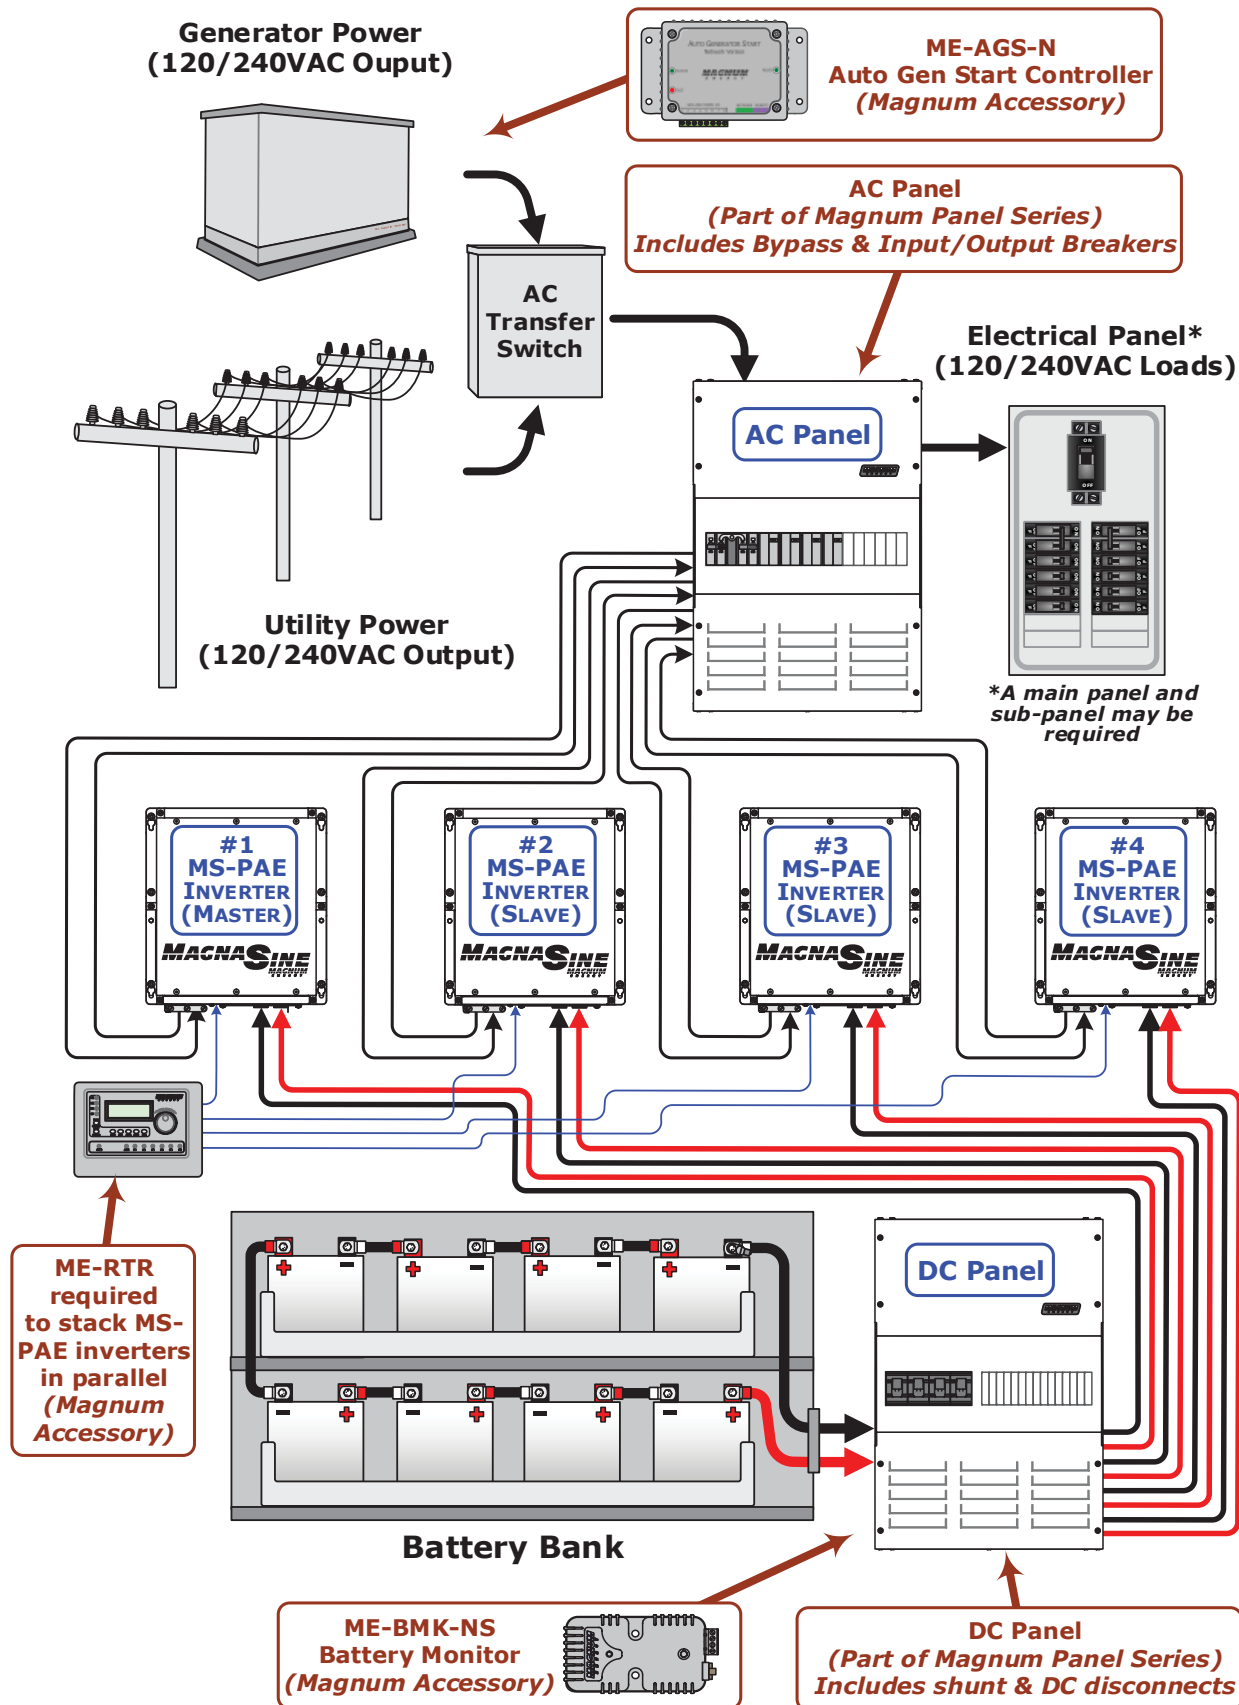
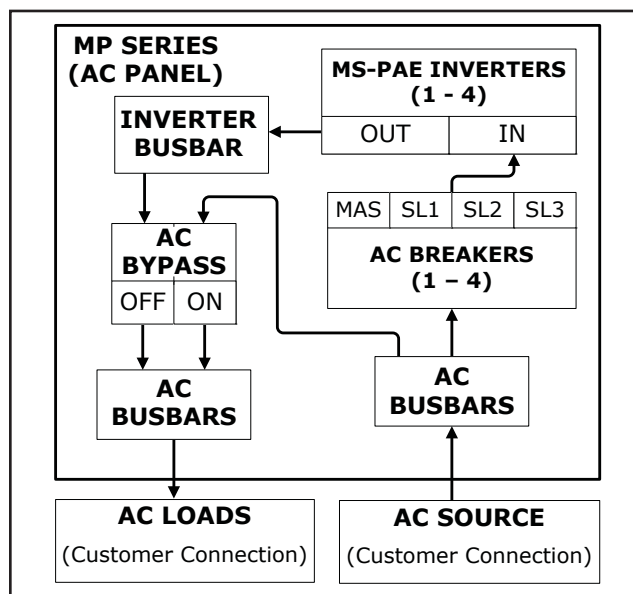

Figure 4-1, Simplified Installation Diagram – Multiple Parallel-stacked Inverters
Figure 4-2, Simplified Panel
The AC and DC connections in a parallel system depend upon additional separate components (highlighted in **bold** in the two sections below). The Magnum Panel (MP) Series of enclosures (e.g., the AC Panel and DC Panel as shown in Figure 4-1) include all these separate components, with most of the necessary AC and DC wiring connections already completed for you. Figures 4-2 and 4-3 are simplified diagrams of the MP enclosure's AC and DC Panels showing those connections and components. Refer to the MP Owner's Manual for detailed instructions on parallel system connections.